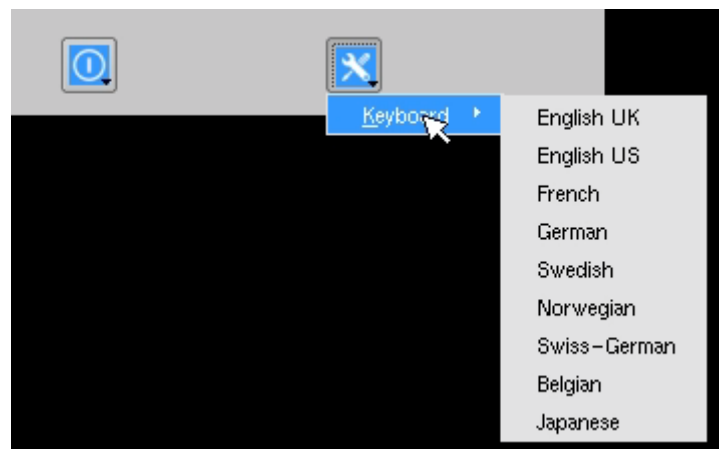

FIGURE 8-4. SETTING SYSTEMS KEYBOARD TYPE
- ◆ System Preferences: This button has a drop down menu that allows the user to define system preferences for the Emerald® receiver. Figure 8-4 shows how the keyboard type can be selected.